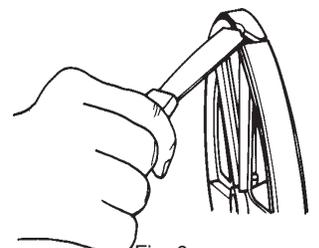

Fig. 6
4. Use a sturdy putty knife to work the rubber free from the wheel. (See Figure 6.)